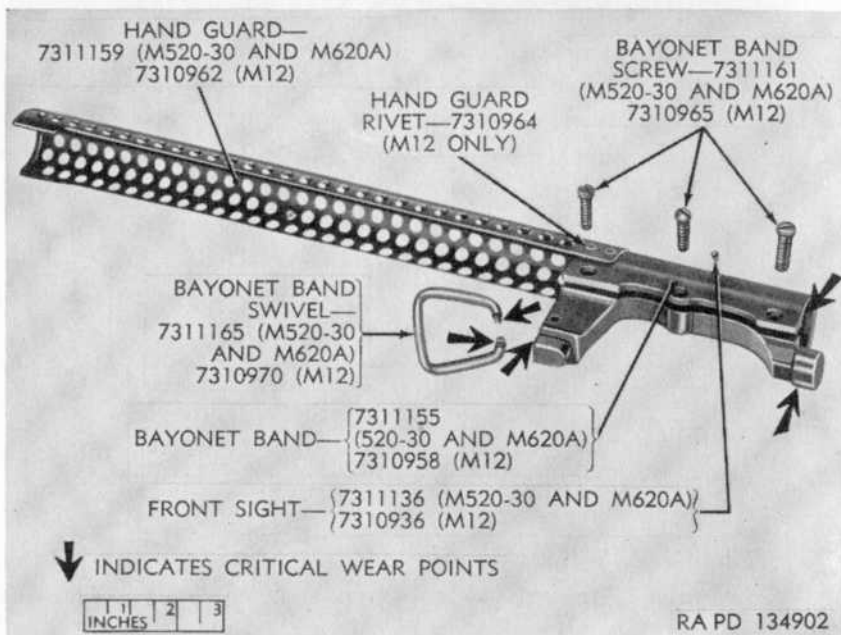

Figure 18. Bayonet band assembly for Winchester shotgun M12 (7310979) and for Stevens shotguns M520-30 and M620A (7311175)—exploded view.
a. Removal and Disassembly (fig. 18).
- (1) Remove the bayonet band assembly from the rest of the shotgun as described in paragraph 35a.
- (2) If the front sight requires repair, remove it with a pair of pliers.
- (3) If the bayonet band swivel requires repair, remove it by separating the sides and drawing the swivel out of the holes and off the band.
- (1) Replace all broken, worn, missing, or otherwise unserviceable and replaceable parts as indicated in (2) through (7) below. Remove burrs and rust as explained in paragraph 27*e* and *f*.
- (2) Replace bayonet band assembly, if bayonet band swivel is broken or missing, hand guard or rivet is too loose, or bayonet band screw holes are stripped.
- (3) Remove burrs from bayonet band lugs.
- (4) Stake hand guard rivet where the connection is loose and remove any small dents from hand guard.
- (5) Clean out aperture for the bayonet band swivel to make it swing freely. If slightly out of shape, remove (a(3) above) and straighten.
- (6) If bayonet band screws are stripped, replace.
- (7) If front sight is unserviceable, replace.
d. Assembly and Installation (fig. 18).
- (1) If missing or removed, screw front sight into bayonet band. Be sure threads are properly mated, as the front sight is made of soft metal and is easily stripped.
- (2) If bayonet band swivel has been removed, spread the sides and snap back in place on bayonet band.
- (3) Install the bayonet band assembly on the shotgun as described in paragraph 43*e*.